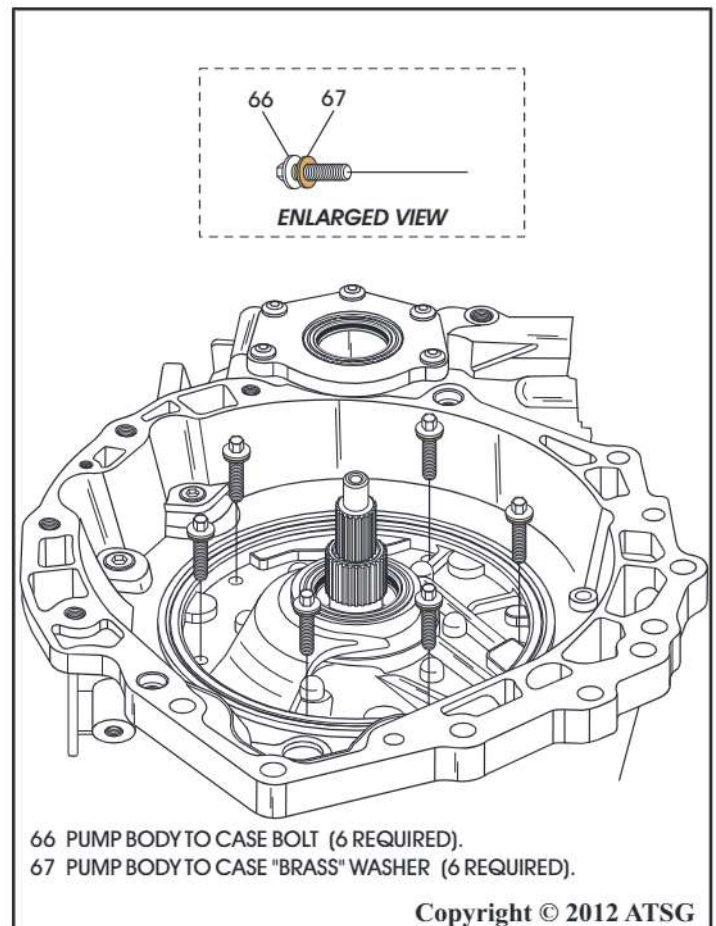

Figure 264
65. Install new brass sealing washers on each of the six oil pump to case bolts (See Figure 264).
66. Install the six oil pump to case bolts, as shown in Figure 264.